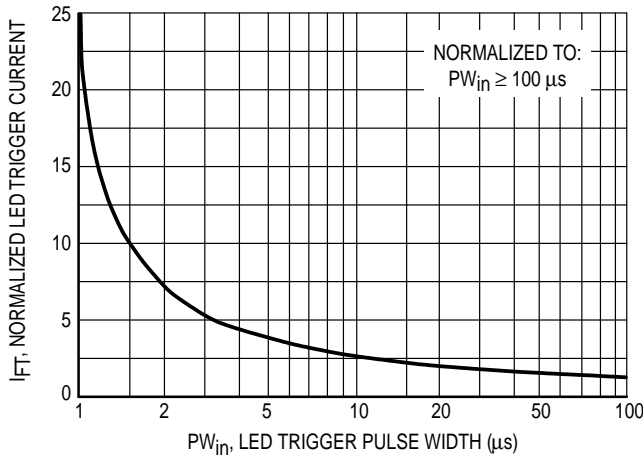

Figure 4. LED Current Required to Trigger versus LED Pulse Width
Random Phase Triac drivers are designed to be phase controllable. They may be triggered at any phase angle within the AC sine wave. Phase control may be accomplished by an AC line zero cross detector and a variable pulse delay generator which is synchronized to the zero cross detector. The same task can be accomplished by a microprocessor which is synchronized to the AC zero crossing. The phase controlled trigger current may be a very short pulse which saves energy delivered to the input LED. LED trigger pulse currents shorter than 100 μs must have an increased amplitude as shown on Figure 4. This graph shows the dependency of the trigger current I_{FT} versus the pulse width t (PW). The reason for the I_{FT} dependency on the pulse width can be seen on the chart delay t(d) versus the LED trigger current.